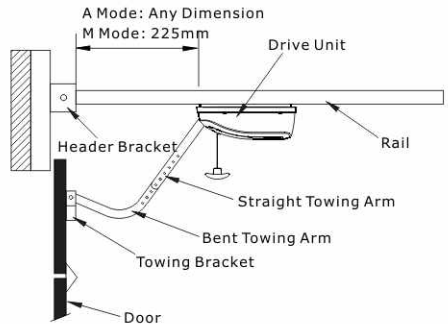

Fig.9
- i. Adaptive mode ~ any distance from the end of the Drive Rail.(Fig.9)
- ii. Manual Mode ~ 225mm from the end of the rail to the front of the Drive Unit. (Fig.9)